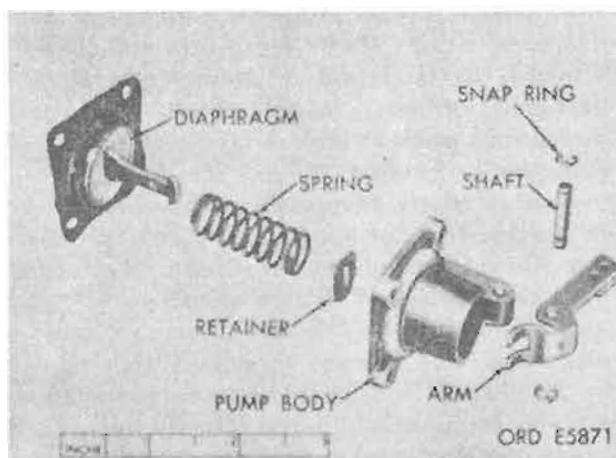

Figure 5-20. Accelerating pump assembly.
(3) Remove two snap rings from accelerating pump arm shaft (fig. 5-20).
(4) Compress pump to remove arm from actuating spring and diaphragm. Remove shaft (fig. 5-20).
c. *Accelerating Pump.* Compress pump to install arm on spring and diaphragm assembly (fig. 5-20). Place snap rings on arm shaft (fig. 5-20). Position spring against carburetor body and secure pump cover with four mounting screws.